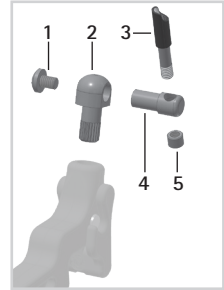

fig. 5
- 1 Adhere the retainer for pulling cable holder (1; fig. 5) with the 2-component adhesive into the bore of the locking pawl. The bore of the retainer for pulling cable holder must run parallel to the joint axis.